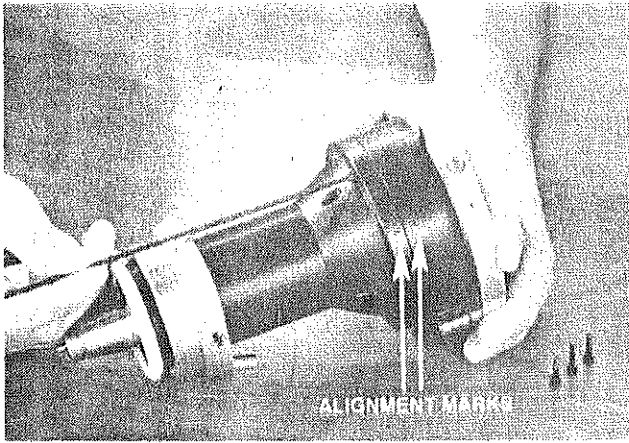

FIG. 35
19. Carefully insert rear cover into turbine housing. Use caution not to strike the fluid tube assembly. Note the alignment mark must line up with the mark on the turbine housing (Fig. 35).
20. Install four lubricated M3X12 MM cap screws. Tighten to 15-16 in. lbs. torque (Fig. 35).